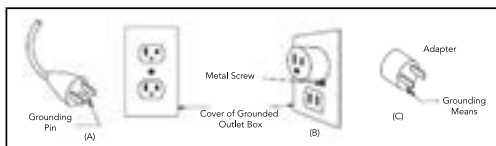

Figure 65.1
24. This product for use on 120 volt electrical outlets. The cord has a plug as shown at A in Figure 65.1. An adapter, as shown at C, can be used to connect three-blade grounding-type plugs to two-slot receptacles (it is not included with your product). The green grounding lug extending from the adapter must be connected to a permanent ground such as a properly grounded outlet box. An adapter should not be used if a three-slot grounded receptacle is available. \*NOTE: A TWO-PRONG ADAPTOR IS NOT INCLUDED WITH THIS PRODUCT.